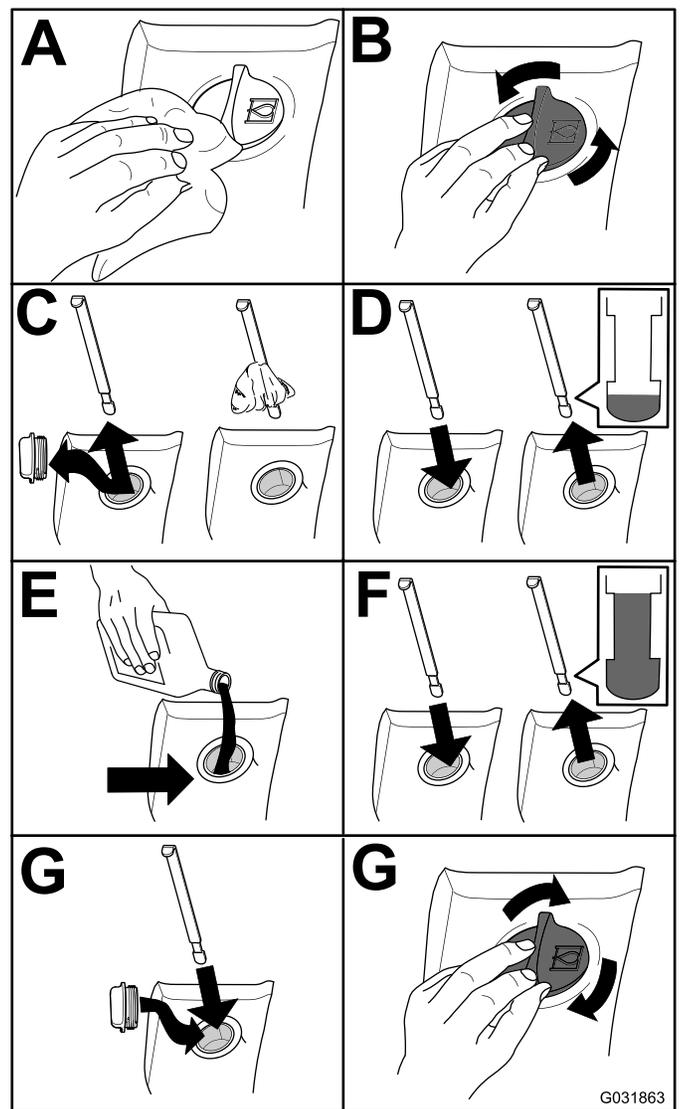

Figure 79
2. Check the hydraulic-fluid level (Figure 79).